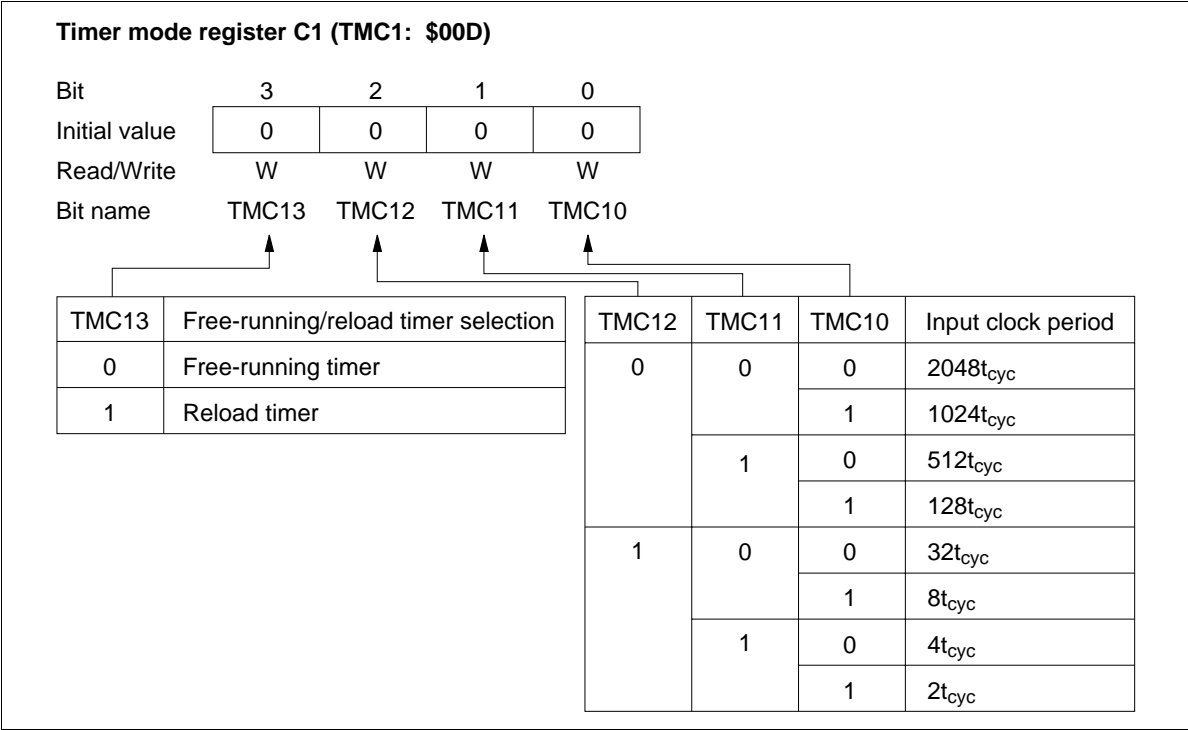

Figure 53 Timer Mode Register C1 (TMC1)
- Timer mode register C1 (TMC1: \$00D): Four-bit write-only register that selects the free-running/ reload timer function, input clock source, and prescaler division ratio (figure 53). It is reset to \$0 by MCU reset.